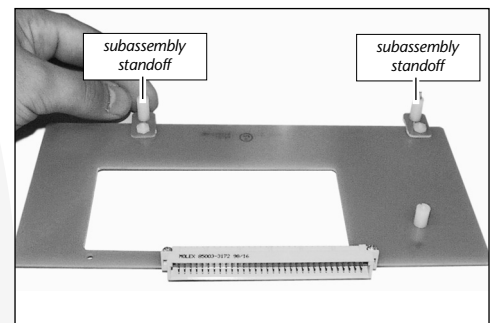

Figure 36: Assemble subassembly standoffs for AV card
- Using a small Phillips screwdriver, remove the three standoffs from the video adapter board. Locate the two subassembly standoffs from the video adapter packaging. Assemble and secure the two subassembly standoffs to the upper left and right corners of the adapter board (**Figure 36**).